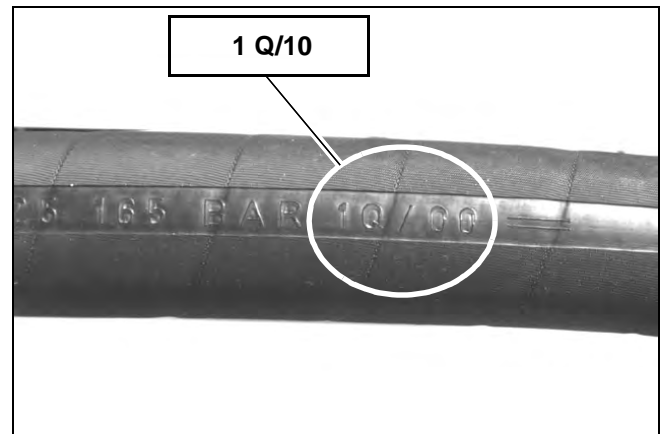

Figure 4-15 Hydraulic Hose Manufacture Date
- Hydraulic hoses must be replaced every six years from the date of manufacture, even if they do not appear damaged. The date of manufacture (month or quarter and year) is indicated on hydraulic hoses. See Figure 4-15.